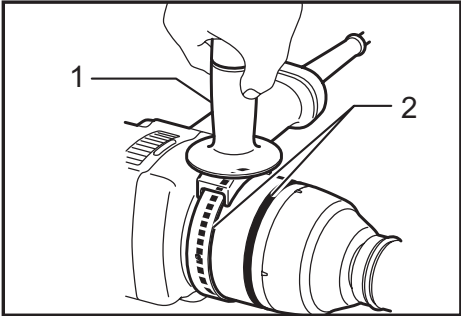

Fig.2
- **Fig.2:** 1. Side grip 2. Groove